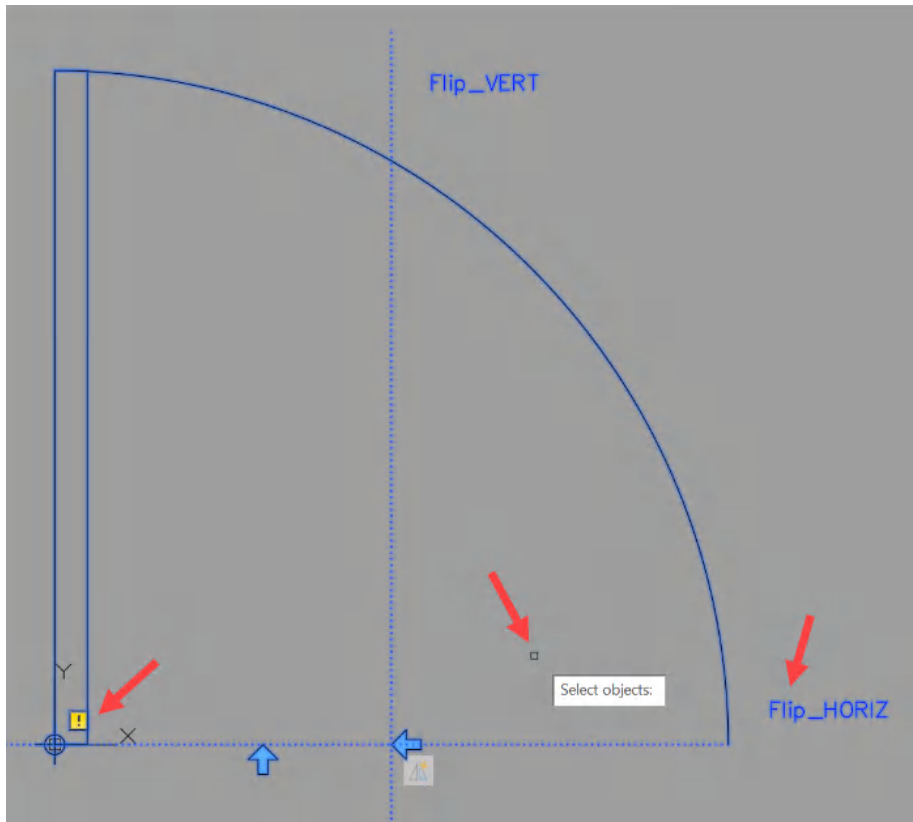
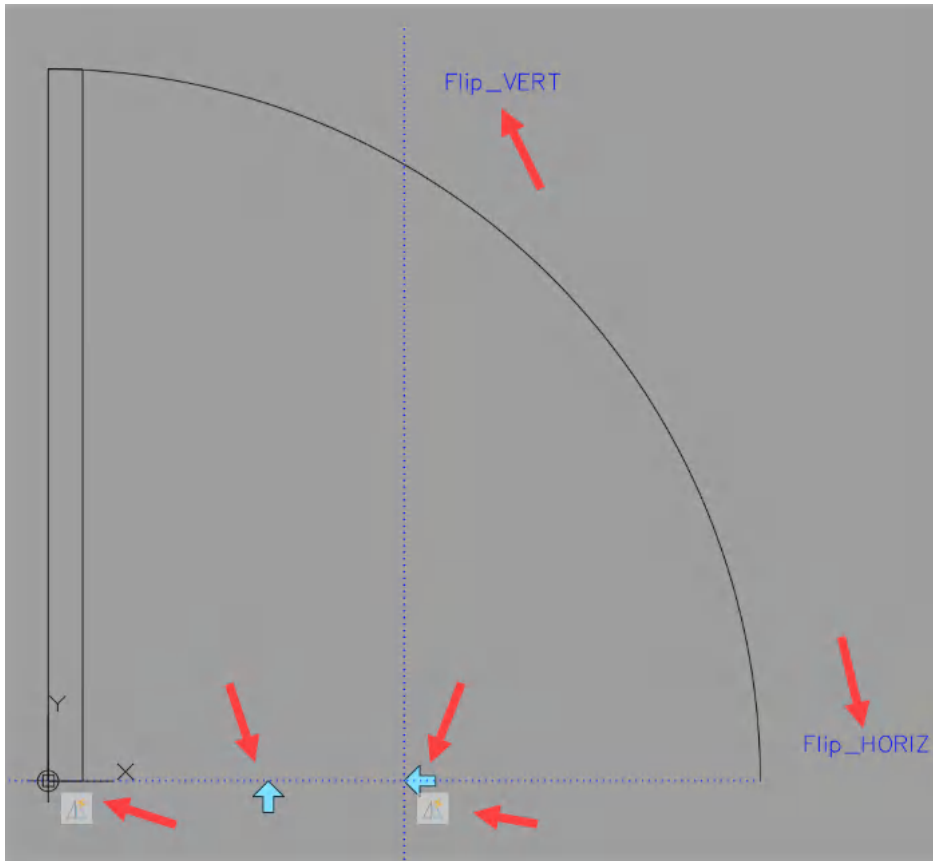

Figure 11.24: The Select objects prompt for the horizontal Flip action
Figure 11.25: The door block with finished parameters and actions in Block Editor
10. At the prompt, select the new **Flip\_HORIZ** parameter. You will then see the **Select objects** prompt, as shown in *Figure 11.24*.
11. Select *all* objects in **Block Editor**, including the **Basepoint** parameter (they are all shown selected in *Figure 11.24*) and the vertical **Flip** parameter and action. Press *Enter* to confirm selection, and your dynamic door block should now look as it does in *Figure 11.25*.